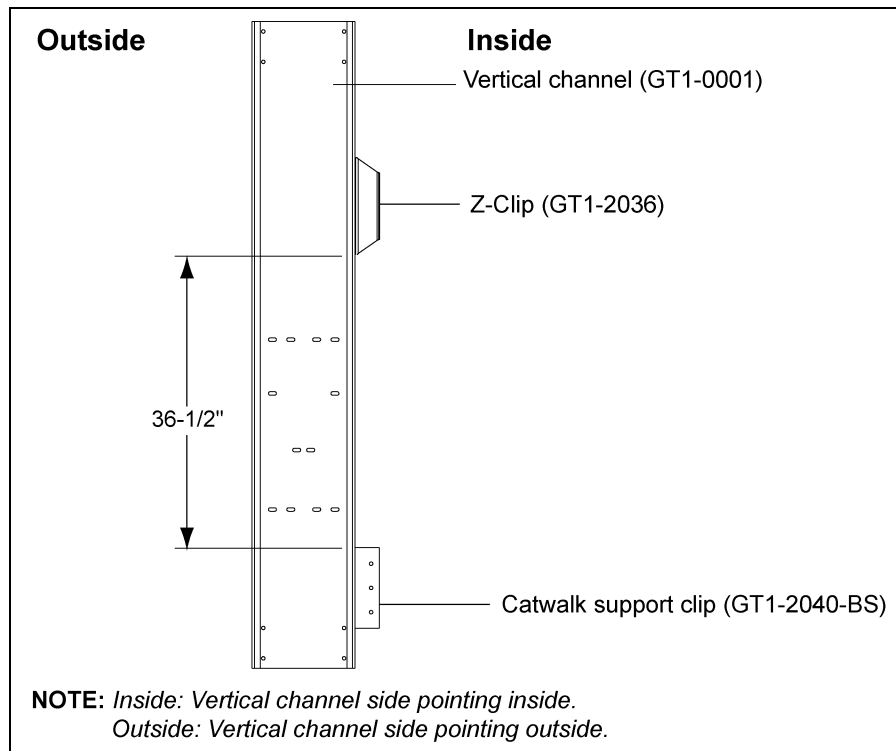

Figure 5C
2. The distance between the Z-clip and support clip for 12' inside catwalk is 36-1/2". (See Figure 5C.)